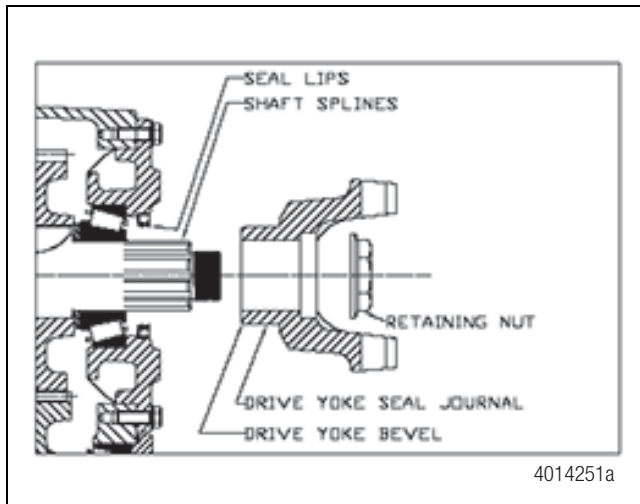

Figure 8.1
2. Remove the retaining nut from the shaft. Input sectional view shown in Figure 8.1.